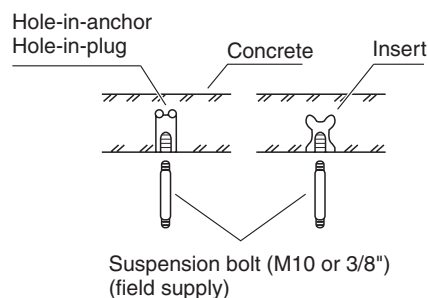

Fig. 2-29
- (1) Fix the suspension bolts securely in the ceiling using the method shown in the diagrams (Figs. 2-29 and 2-30), by attaching them to the ceiling support structure, or by any other method that ensures that the unit will be securely and safely suspended.